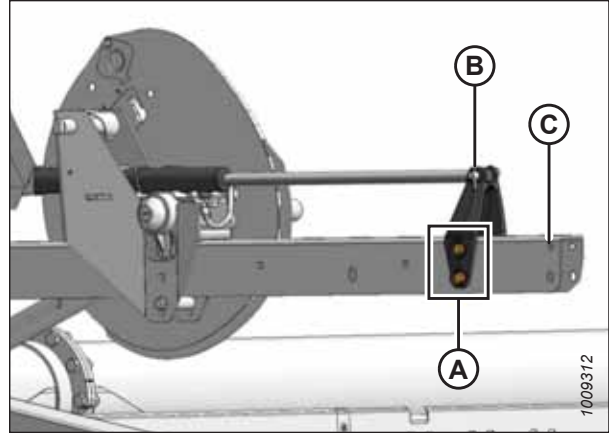

Figure 3.76: Rearward Position
- Rearward position, refer to Figure 3.76, page 86
8. Reinstall the four bolts (A) to secure bracket to reel arm at new position.